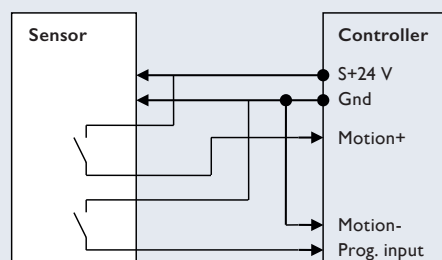

Figure 15: Redundant output connection
- Figure 15: Redundant output connection